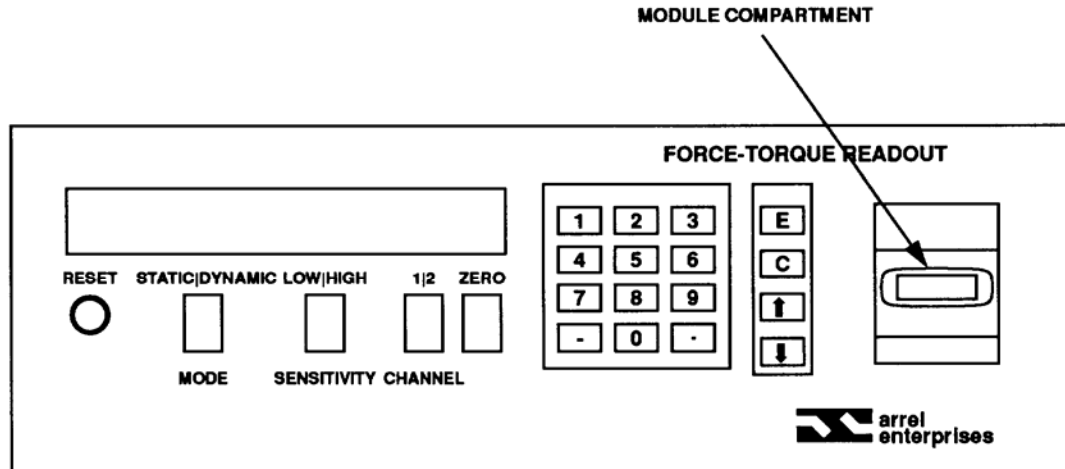

Figure 3. Force-torque readout - front panel.
- f.** Insert **EEPROM** module into **MODULE COMPARTMENT** (fig. 3) (if it is not installed).